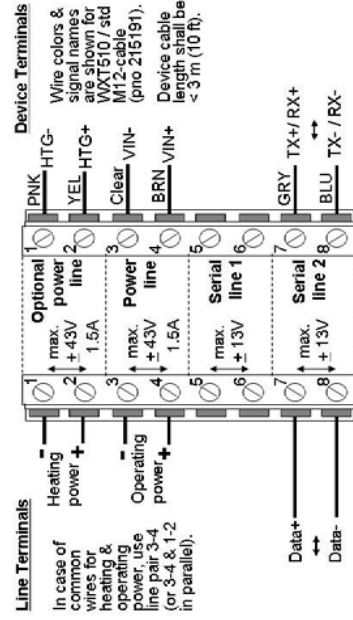
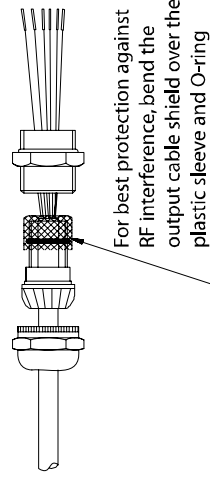

Figure 3 Wiring instructions for RS-485
Figure 8 Line cable shielding
3. With all voltages disconnected, enter the line cable through the leftmost cable gland and make the input wiring to the line terminals. Follow the instructions in Figures 3 to 6. For best protection against RF noise, follow the shielding instructions in Figure 8. Make sure no cable shield mesh gets on the circuit board. Carefully tighten the line cable gland.
4. Enter the device cable through the rightmost cable gland and make the output wiring to the device terminals. Follow the instructions in Figures 3 to 5. Carefully tighten the device cable gland.